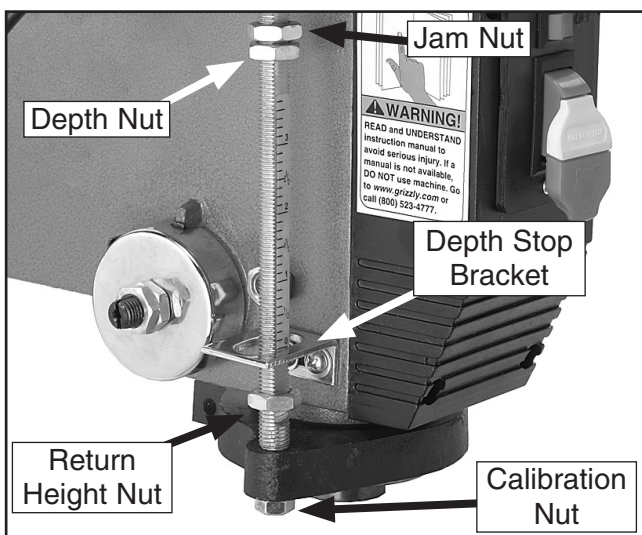

Figure 29. Depth stop assembly.
1. Loosen the calibration nut shown in **Figure 29**.